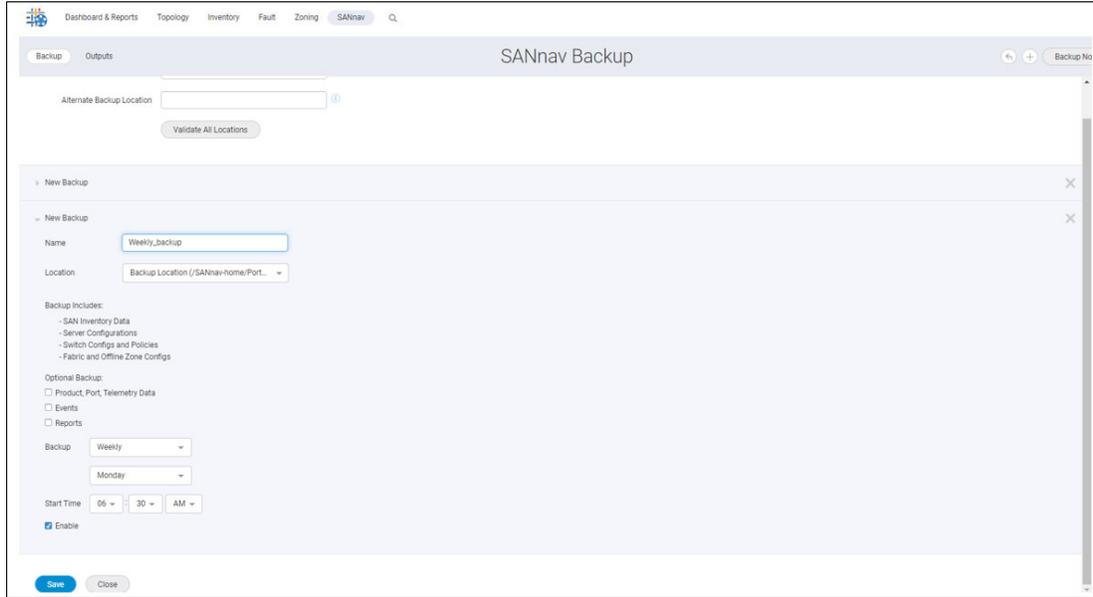

Figure 4-37 Scheduled weekly backup
10. Check **Enable** to activate the second scheduled backup, and click **Save**, as shown in Figure 4-37.